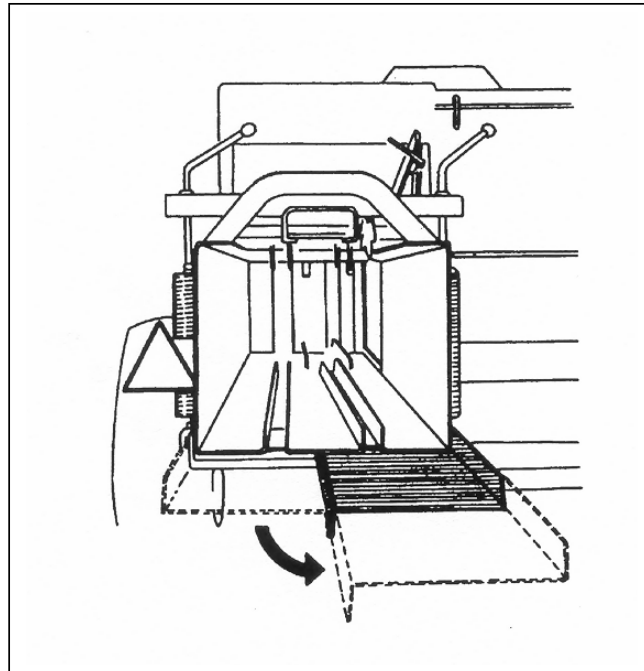

Fig. 26 Folded chute
For the purpose of working on slopes and in case of collecting material from narrowly spaced material rolls, a half of the metal plate chute may be removed (Fig.26). In such a case bales will be placed to the side of the baler.
**While operating the baler, special attention should be paid to checking the reliability of bolt connections 1 and 2 (Fig. 26) of the counterweight with arms and the crank, particularly in initial stage of operation.**